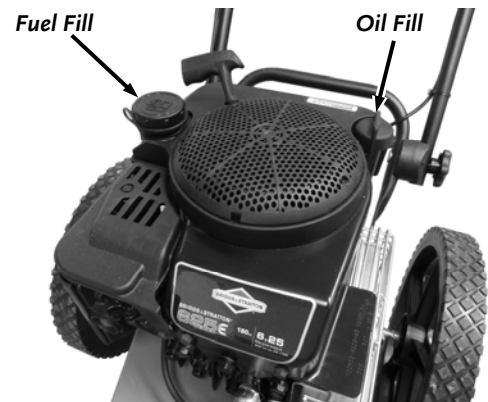

Figure 10
Note: Briggs and Stratton 8.75 Fuel and Oil Fills are on opposite sides from what is shown in figure 10.
1. Check the oil level every time you use the DR TRIMMER/MOWER (**Figure 10**).